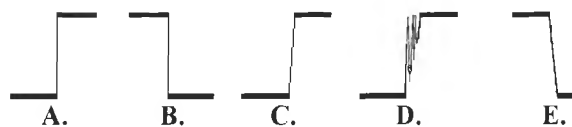

Figure L36-5
- Which shape in Figure L36-5 best shows a clock signal?